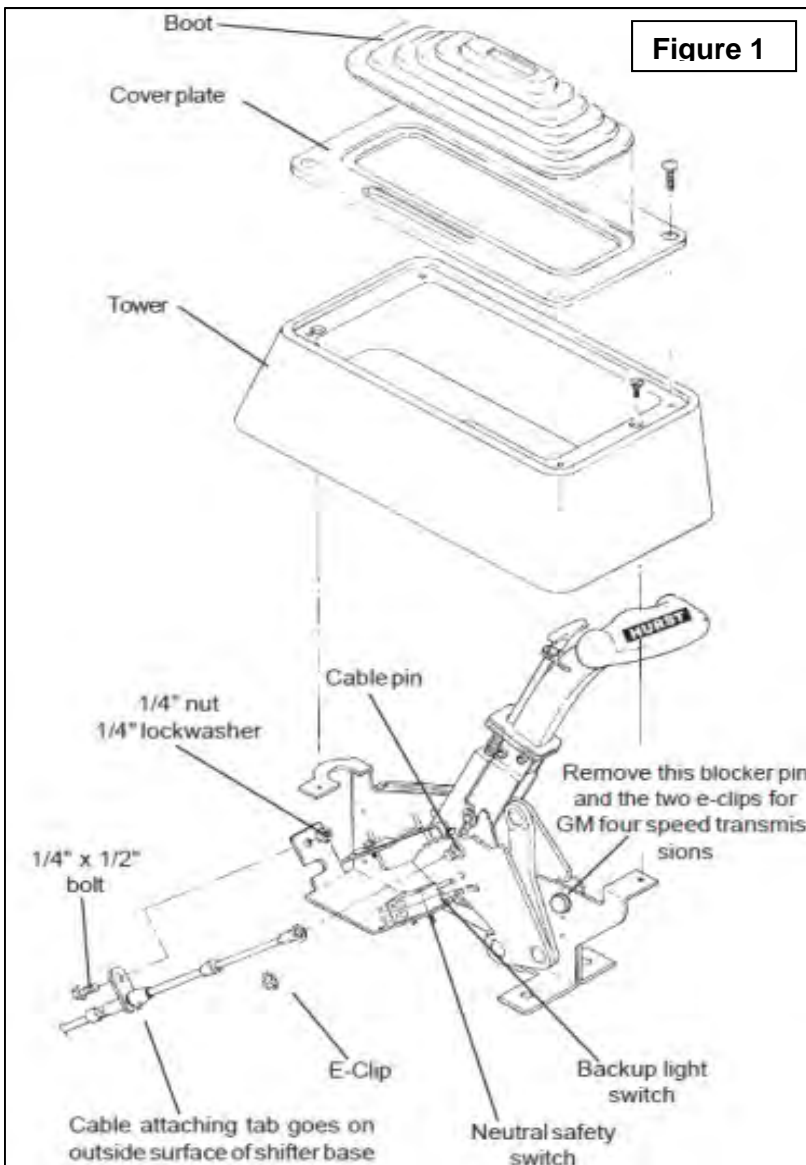

Figure 1
NOTE: If you are installing this shifter with a four speed automatic transmission, you must remove the blocker pin and the two e-clips indicated in Figures 1 (on Page 12) and 3. Removing this blocker pin gives the shifter four forward positions rather than three. For Ford AOD four speed transmissions do not remove this blocker pin and the two e-clips, since this transmission has only three forward positions. Also do not remove the blocker pin and the two e-clips for three speed automatic transmissions.
5. Assemble the neutral safety and the reverse light switches to the bracket using two #4-40 x 1" screws and nuts, as shown in Figure 1. **Beware**, over tightening the switch attachment screws will crack the switch housings. Install the switch assembly on the shifter. To adjust the switches, loosen the screws and slide the switches in or out as required, then retighten the screws.
6. Install the cable on the shifter as shown in Figure 1. The cable attachment tab should be bolted to the outside surface of the shifter base using a 1/4" x 1/2" hex bolt, lock washer and nut. Install the E-clip that secures the cable to the cable pin.
20. On Ford vehicles, the neutral safety/backup light switch is located on the transmission (or on the steering column on some early vehicles). If the vehicle has an AOD transmission the neutral safety/backup light switches on the Hurst shifter will NOT be used. The neutral safety/backup light switch on the AOD transmissions will continue to function normally. On the C-4 and C-5 transmissions, it is necessary to completely remove the stock neutral safety/backup light switch in order to install the Hurst transmission shift lever. On C-4, C-5 and C-6 transmissions, it will be necessary to hook up the neutral safety/backup light switches on the Hurst Vmatic3 shifter. Locate and identify the neutral safety (the engine will not crank unless these wires are connected together), and reverse light wires. Disconnect the battery ground cable before beginning to wire the neutral safety and the reverse light switches. Reroute the wires to the Hurst Vmatic3 shifter. Strip 1/4" of insulation off the wires and install the supplied slip-on terminals. Crimp the terminals onto the wires using a crimping tool or pliers. Connect the neutral safety wires to the **LOWER** switch and the reverse light wires to the **UPPER** switch (See Figure 1). Tape the terminal connections to prevent shorts. Reconnect the battery ground cable, disconnect the coil wire and set the parking brake. Check the switch operation by attempting to start the motor in each shifter position.
'66-'68: The neutral safety switch will continue to function normally. It will not be necessary to hook up the neutral safety switch wires on the shifter. Disconnect the battery ground cable before wiring the backup light switch. Locate the original backup light switch on the steering column or the console shifter. Run these wires to the top switch on the Hurst Vmatic3 shifter (See Figure 1). Reconnect the ground wire and check the light for proper operation. Adjust the switches on the shifter if required.